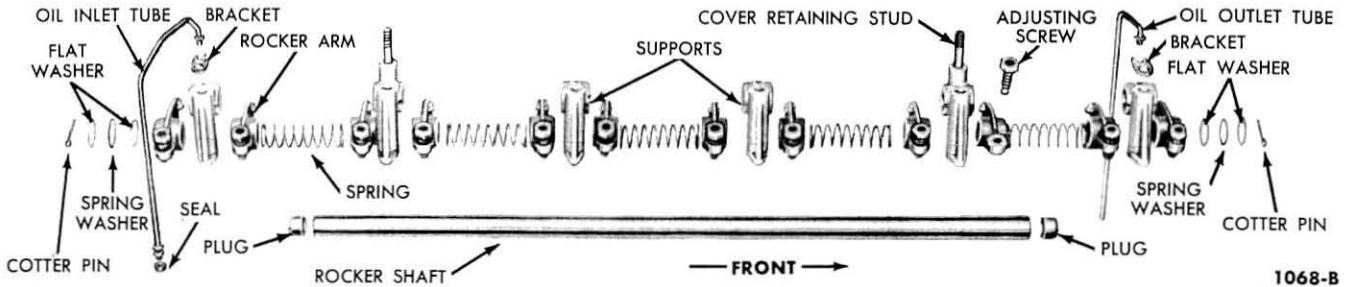

FIG. 17—Valve Rocker Arm Shaft Assembly
4. Install the valve rocker arms, supports, and springs in the order shown in Fig. 17. Be sure the oil holes in the shaft are facing downward. Complete the assembly by installing the remaining two flat washers with the spring washers between them and install the cotter pin.